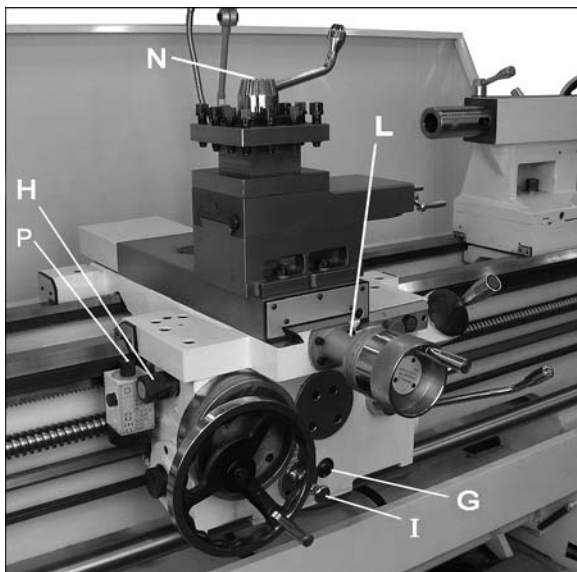
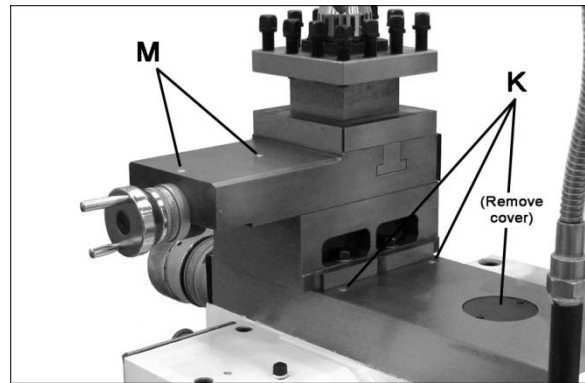

Figure 12 – Lubrication points
Figure 13 – Lubrication points
7. **Apron** – Oil must be between indicator marks in the oil sight glass (G, Figure 12). Top off with SAE 20W oil. Unscrew oil plug (H, Figure 12) to fill. To drain, remove drain plug on the underside of apron. Drain oil completely and refill after the first three months of operation. Then, change oil in the apron annually.
One-shot Lube System: Pull knob (I, Figure 12) and hold for several seconds to allow oil to fill the pump from the apron reservoir. Then release the knob which will push the oil
8. **Threading Dial** – Frequently lubricate via one ball oiler (P, Figure 12) on top of the dial with SAE 20W oil.
9. **Cross Slide** – Daily lubricate one ball oiler on the handwheel housing (L, Figure 12) and three ball oilers on the platform (K, Figure 13), with SAE 20W oil.
11. **Compound Rest** – Daily lubricate two ball oilers (M, Figure 13) on top of compound rest with SAE 20W oil.
12. **Tool Post** – Regularly clean dirt and coolant from around the tool post to maintain its re-positioning accuracy. Daily lubricate one ball oiler on top the clamping hub (N, Figure 12) with SAE 20W oil.